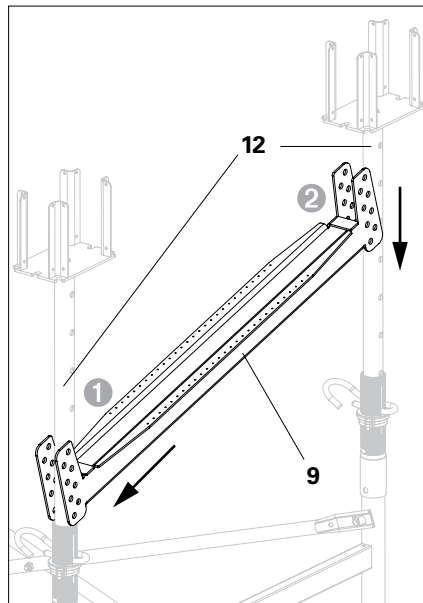

Fig. A1.17
3. Install PD 5 Beam Waler (9) between the PD 5 Beam Spindles (12). For this, insert the PD 5 Beam Waler diagonally between the PD 5 Beam Spindles. Attach one side ① below and slide the other side ② from top to bottom until the PD 5 Beam Waler is at the same height. (Fig. A1.17)
For assembling the Beam Waler, there must be sufficient space above. (Fig. A1.17)